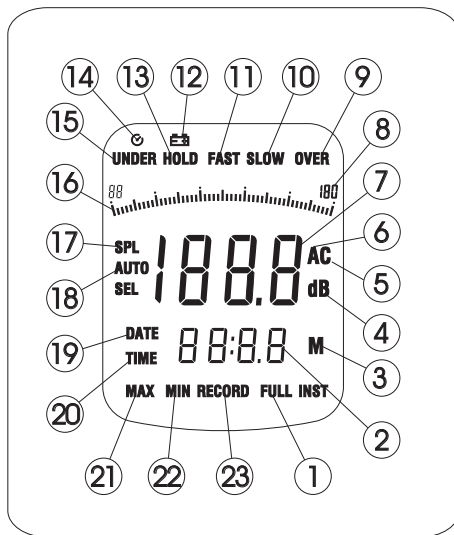

figure 2
B. Display Symbols (see figure 2)